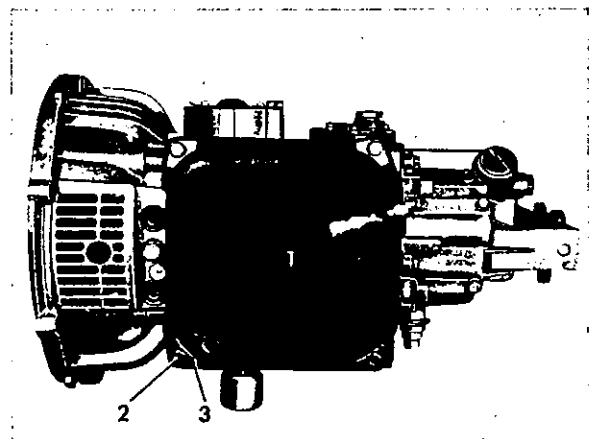

Fig. 1
Loosen the four attachment bolts (2) and remove oil pan, seal and shim (3) **Fig. 1**